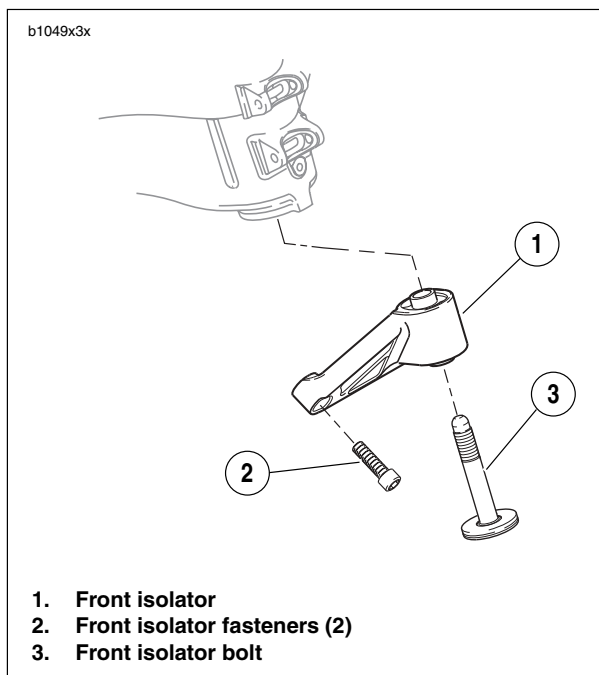

Figure 3-43. Front Isolator
10. See Figure 3-43. Insert front isolator bolt (3) through front isolator (1) and loosely thread into frame. Do not tighten at this point.
11. Install isolator mounting fasteners (2) and tighten to 49-51 ft-lbs (66-69 Nm).